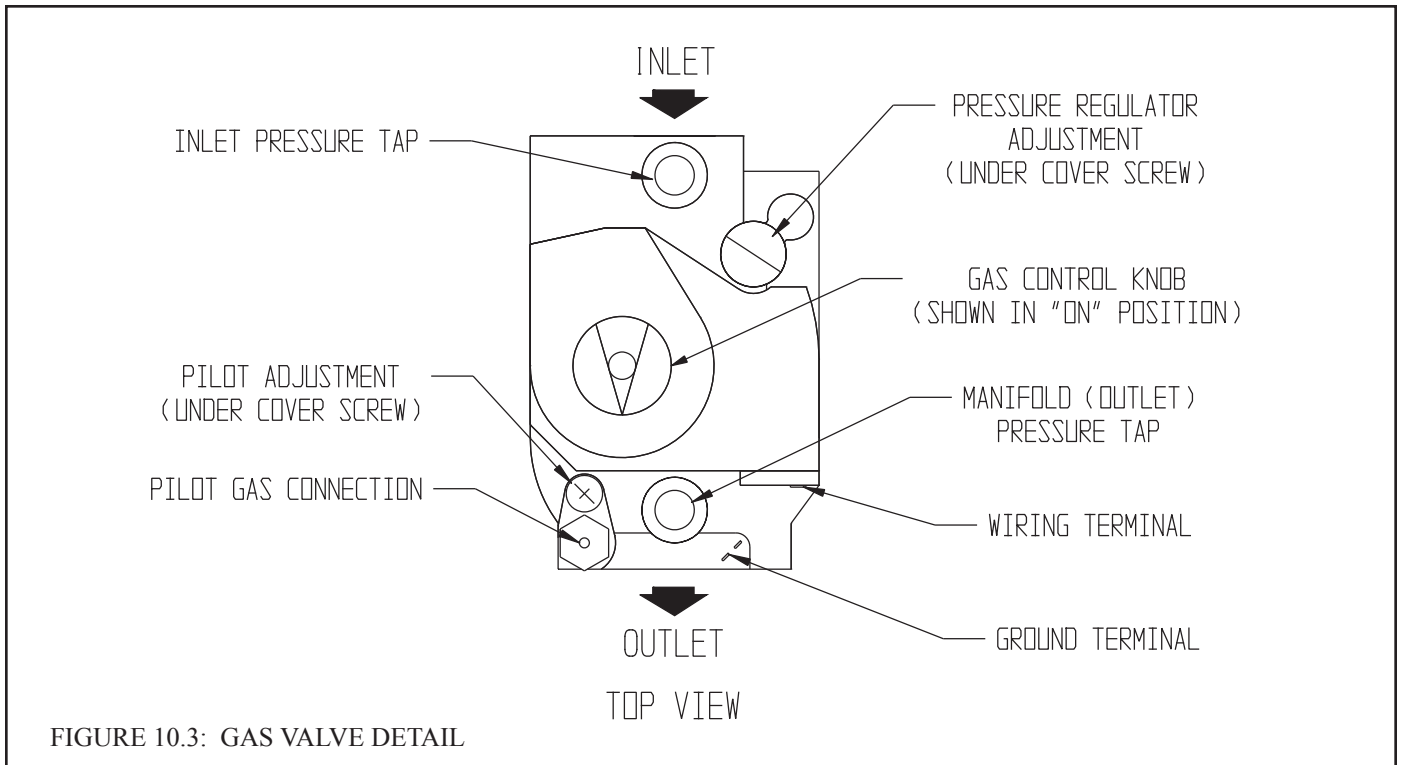

FIGURE 10.3: GAS VALVE DETAIL
- a) Connect a manometer to the inlet pressure tap on the gas valve (see Figure 10.3).
- c) Connect a manometer to the manifold (outlet) pressure tap on the gas valve (see Figure 10.3).
- e) If a manifold pressure adjustment is needed, make the adjustment by turning the regulator (see Figure 10.3) screw clockwise to raise the pressure and counter clockwise to reduce the pressure. If a manifold pressure adjustment is made, recheck the line pressure to be certain that it is still within acceptable limits. Replace the cover screw on the regulator.
- c) Test for spillage at the draft hood relief opening after five (5) minutes of main burner operation. Use the flame of a match or candle, or smoke from a cigarette, cigar, pipe, etc.